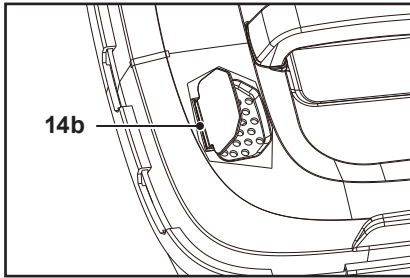

Fig. 11
1. When the hatch (14b) is opened the grass collector has sufficient volume left to collect grass (Fig. 11).